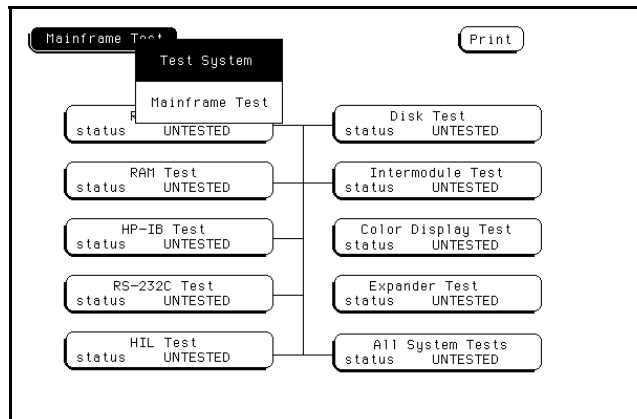

Figure 4-8. Exiting Mainframe Test System
8. To exit the Mainframe Test system and to reload the mainframe operating system, touch the **Mainframe Test** field. Then touch the **Test System** field from the pop-up menu shown in figure 4-8. The Test System configuration will be displayed.